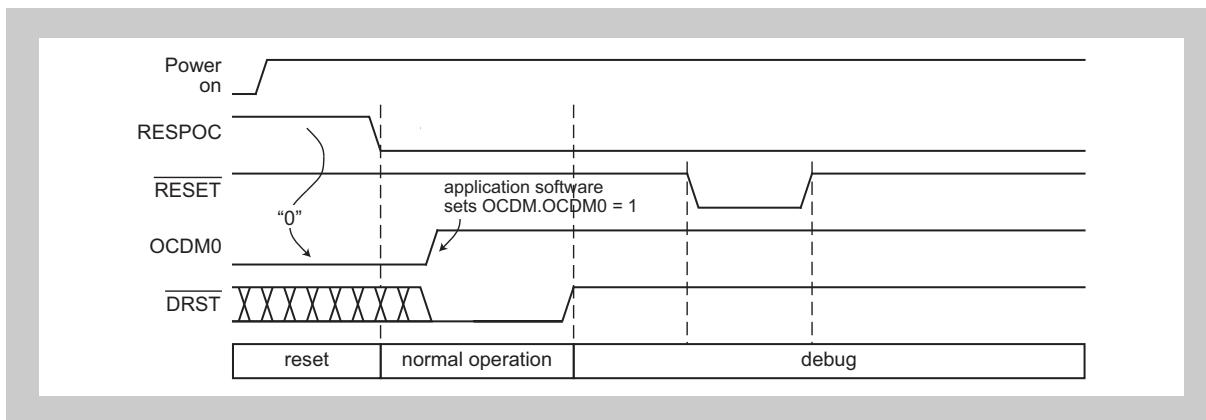

Figure 25-2 Start with N-Wire activation
*Figure 25-2.* This will cause the program to restart. However the status of the controller might not be the same as immediately after RESPOC, since the internal RAM may have already been initialized, when the external RESET is applied.